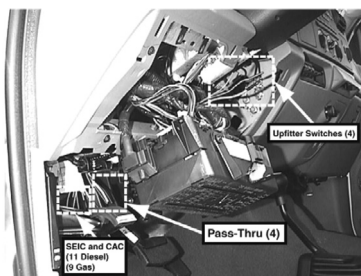

Fig. 3
2. Turn the adjustment screw clockwise to increase RPM (Max 2,300 RPM) (Fig. 3). Use tachometer to set speed. Mount under the dash.